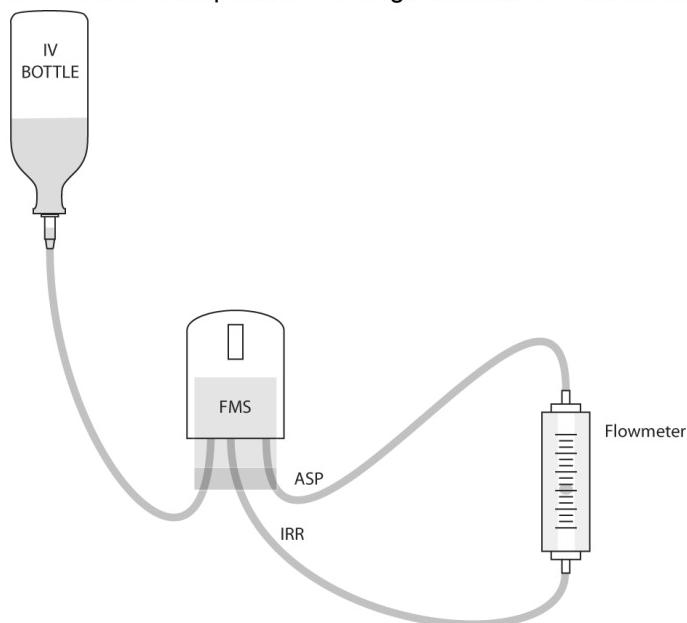

Figure 6: Aspiration Flow Rate Test Setup Using Flow Meter
2.2.5.5.3.1 Connect aspiration and irrigation lines to Flow Meter as shown in Figure 6.